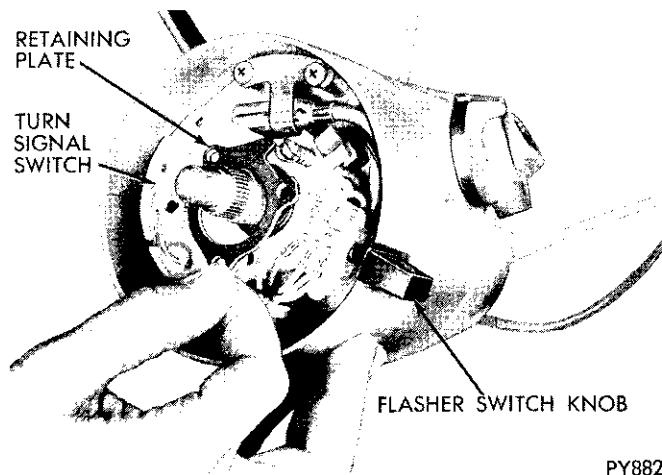

Fig. 4—Retainer and Turn Signal Switch
- (1) Remove four bolts attaching bracket assembly to column jacket.
- (2) Remove two screws and lift off wiring trough.
- (3) Attach Column Holding Fixture C-4132 to column jacket and clamp the assembly in a vise.
- (4) Drive out gearshift lever pin, then remove lever and spring from housing.
- (5) Remove turn signal switch and upper bearing retainer screws. Remove retainer and lift switch upward out of the way (Fig. 4).